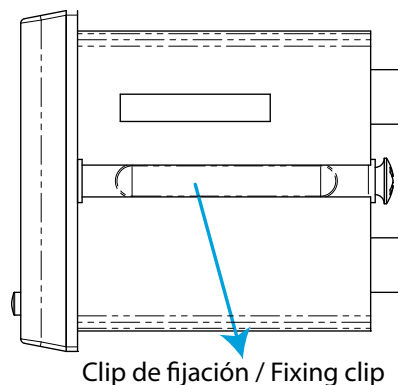

Figure 2: Fixing clip.
2.- Remove the device's fixing clips (**Figure 2**).